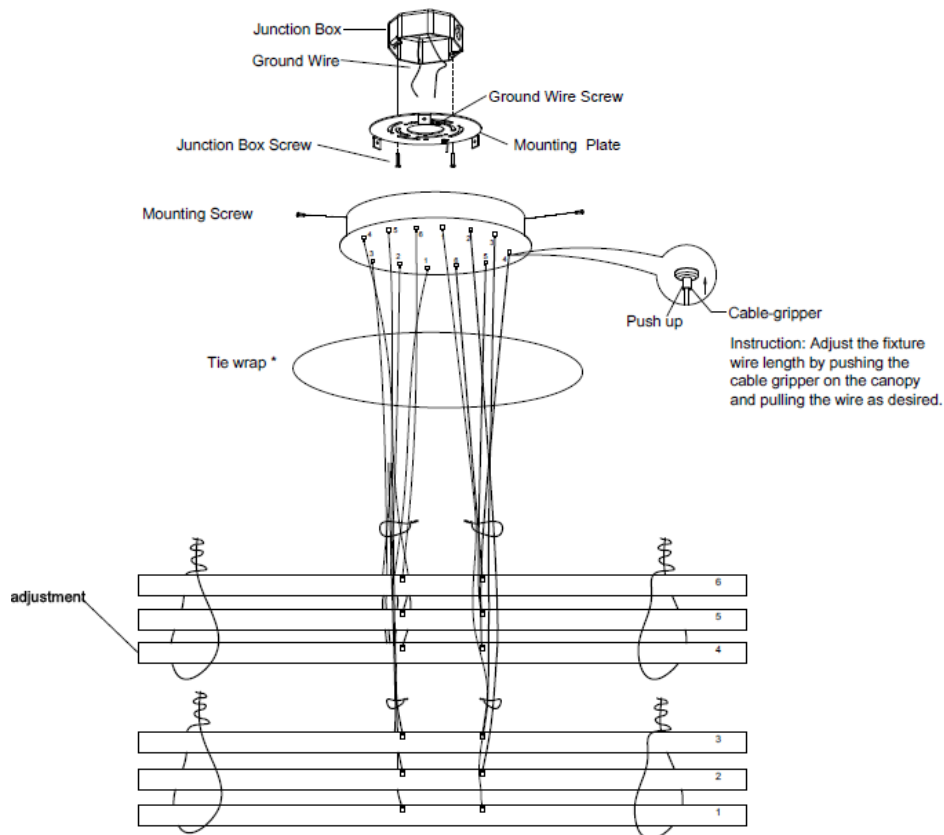

Fig. 3
1. Remove the mounting screw (C) from the canopy (see Fig. 3). Secure the mounting back plate to the junction box using junction box screws (B). The side of the mounting back plate marked "GND" must face out.
2. Cut loose the wires' tie wrap* (as shown in Fig. 3).